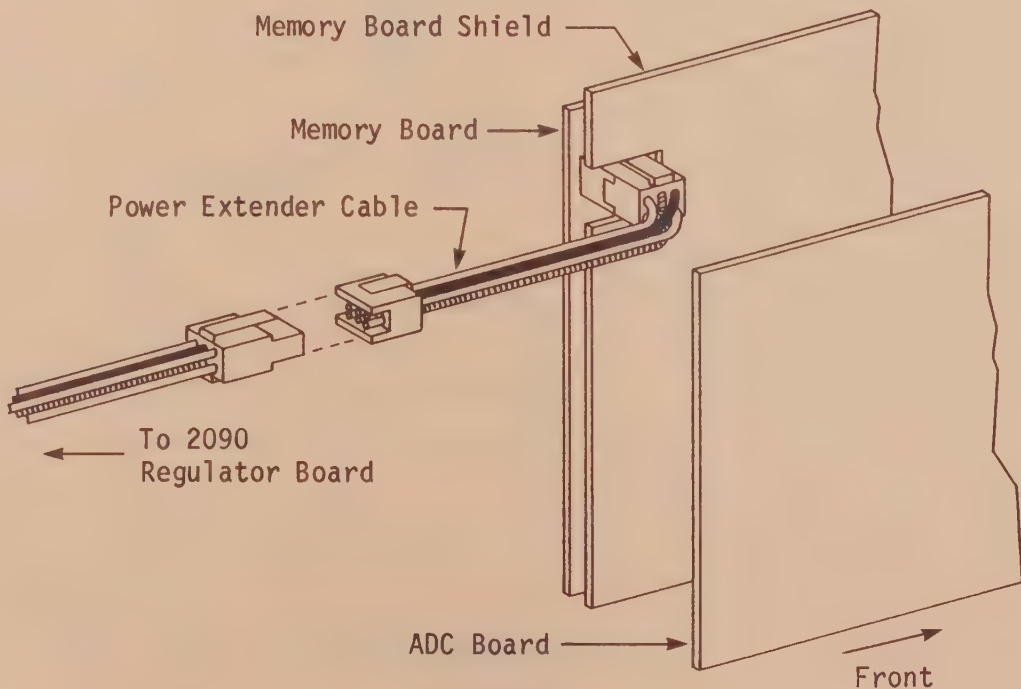

Figure 3-1
► **IMPORTANT:** The 205-A plug-in must be removed and a power extender cable manufactured (Figure 3-1) to perform the Voltage Checks. A power extender cable is available from the Nicolet Oscilloscope Field Service Department.
- 3.1.2. Connect the power extender cable between the 205-A plug-in and the power cables from the Regulator board, (Figure 3-1).